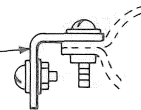
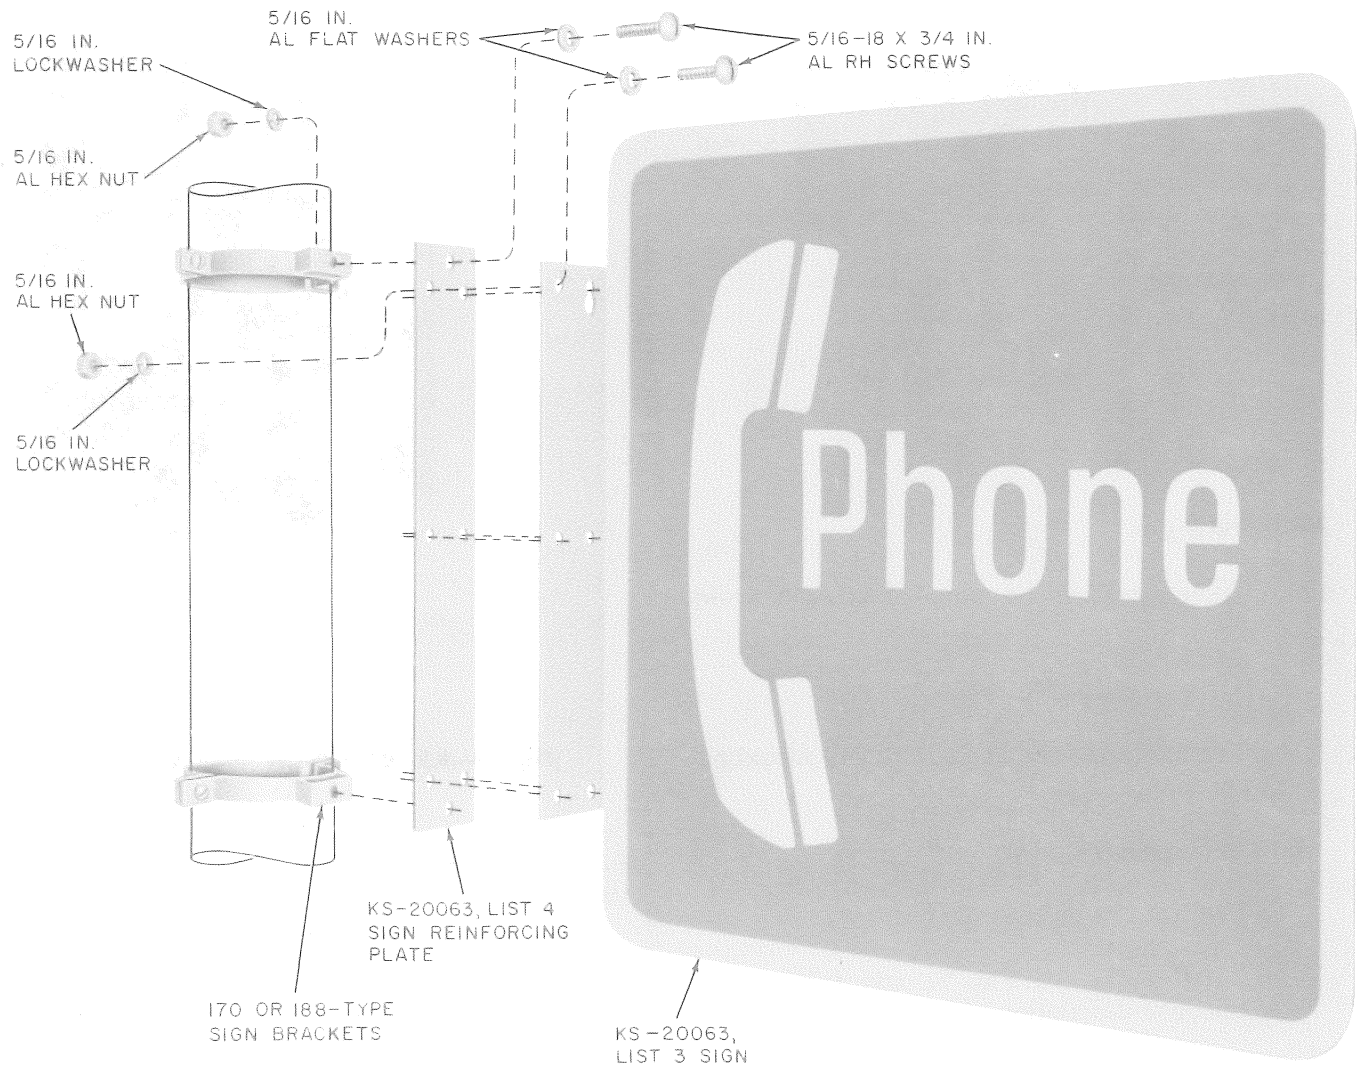

Fig. 13—170- and 188-Type Sign Brackets
Fig. 14—KS-20063, List 3 Sign—Pole Mounted
- (b) Metal pole (Fig. 14):
- Refer to Fig. 13, Fig. 14, and Table B for complete description of brackets
KS-20063, List 3 signs, pole mounted or corner mounted, require a KS-20063, List 4 reinforcing plate to prevent buckling (Fig. 14 and 15.)